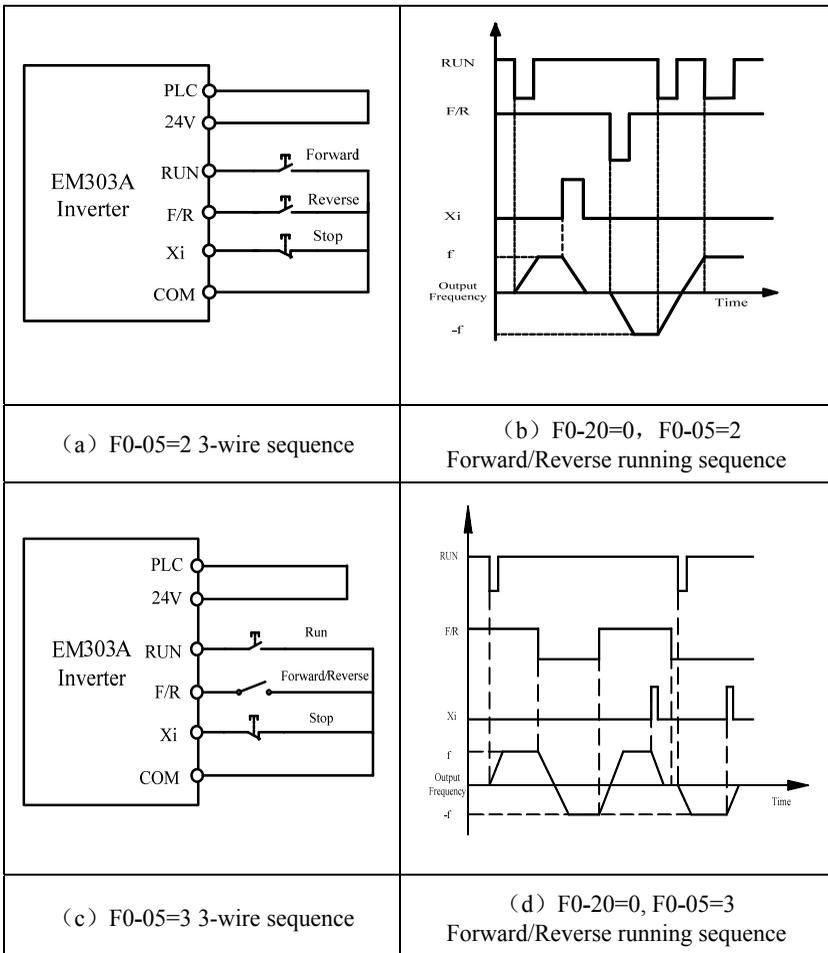

Figure 7-3 3-Wire Sequence
**F0-05=2** RUN is NO forward running button, F/R is NO reverse running button, Xi is NC stop button, all of them will be on at pulse edge. In running status, press Xi button, the inverter stops. When stop mode is selected as ramp-to-stop (F0-20=0), the sequence diagram refers to Figure 7-3 (b). Xi among X1~X7 is defined as the terminal of 3-Wire Sequence Run/Stop Control by F2-00~F2-06.
**F0-05=3** F/R is forward/reverse switching button (Forward when F/R is off, and reverse when F/R is on.) RUN is NO running button, and Xi is NC stop button, all of them will be on at pulse edge. When stop mode is selected as ramp-to-stop (F0-20=0), the sequence diagram is as shown in Figure 7-3(d).